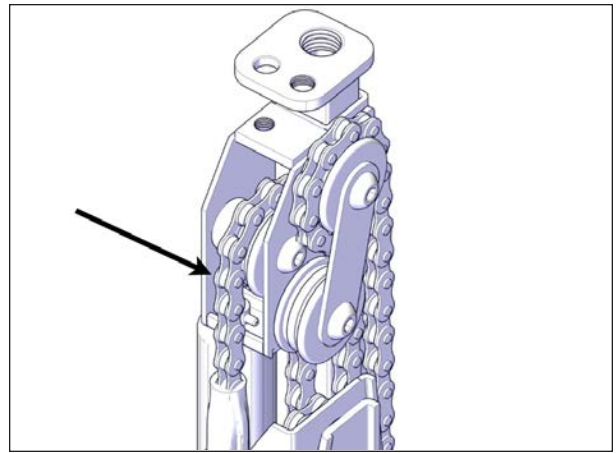

FIGURE 81: JACK CHAINS
8. Inspect the chains for signs of deterioration. If this is the case, call your local Covana dealer, see Figure 81.